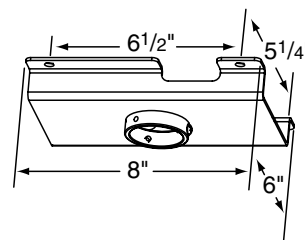
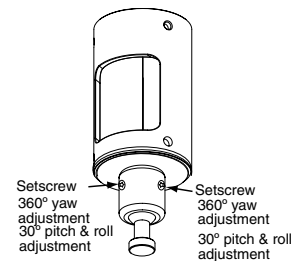

Figure 2
Figure 3
- ③ Use mounting plate to mark ceiling (see Fig. 2).
- ④ If appropriate, run wiring down through pipe and out through opening in Bracket Adapter.
- ⑤ Attach plate to ceiling. If using optional Angled Mounting Plate, attach Ceiling Mounting Plate to Angled Mounting Plate using 1/4"-20 x 5/8" long hex head screws (provided), then attach Angled Ceiling Mounting Plate to ceiling (hardware for ceiling attachment not included).
- ⑥ Install Aero Universal Projector Bracket on projector if applicable (see separate instructions). Then, attach bracket and projector to Aero Accuset ball joint (see separate instructions) and adjust ball joint as necessary (see Fig. 3)